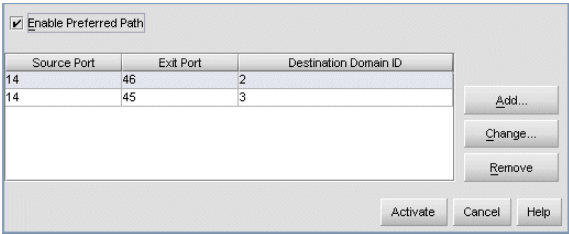

Figure 27: Configure Preferred Paths dialog box
1. Click **Configure > Preferred Path**. The Configure Preferred Paths dialog box displays, as shown in Figure 27. This dialog box provides the configuration for a single switch’s preferred path.
1. Click **Configure > Preferred Path**. The Configure Preferred Paths dialog box displays (Figure 27 on page 114).
1. Click **Configure > Preferred Path**. The Configure Preferred Paths dialog box displays as shown in Figure 27 on page 109.